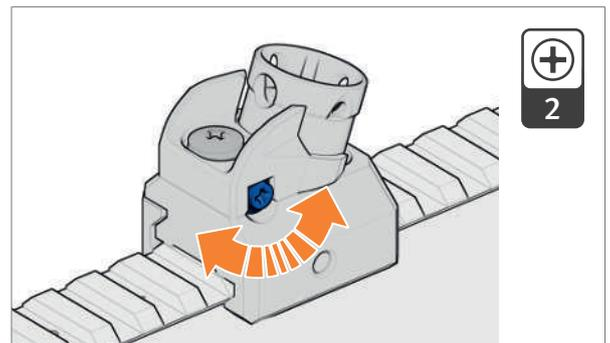

Fig. 84: Turn the windage adjustment screw
2. Turn the windage adjustment screw in the desired direction with a screwdriver (Fig. 84).
› Turn windage adjustment screw anti-clockwise (Fig. 84).	One turn alters the position of the impact point by approx. 5.5 cm at a range of 100 m.
› Turn windage adjustment screw clockwise (Fig. 84).